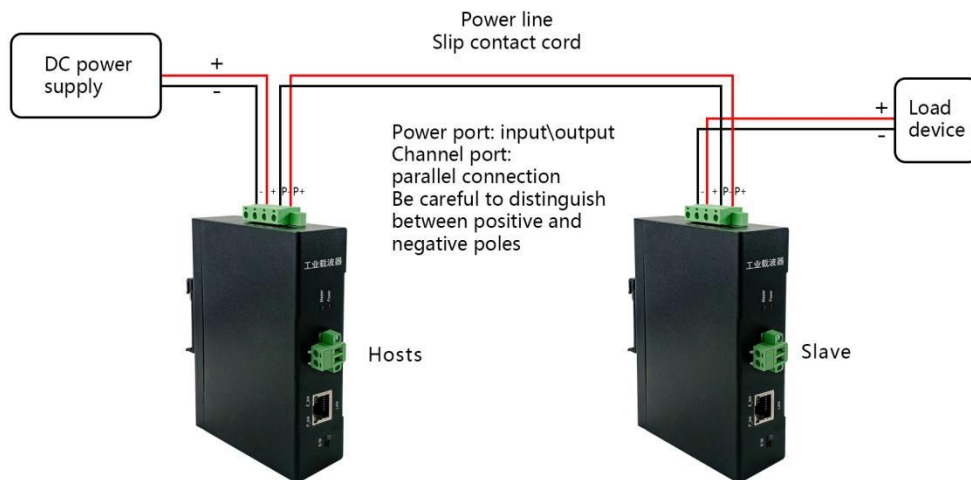

Figure 1
**1、 Built-in filter wiring method: Load up to 5A, power port for DC power supply or load, channel interface P+,P- are paralleled on the power line, need to distinguish between positive and negative poles.Wiring diagram, as shown in figure 1:**